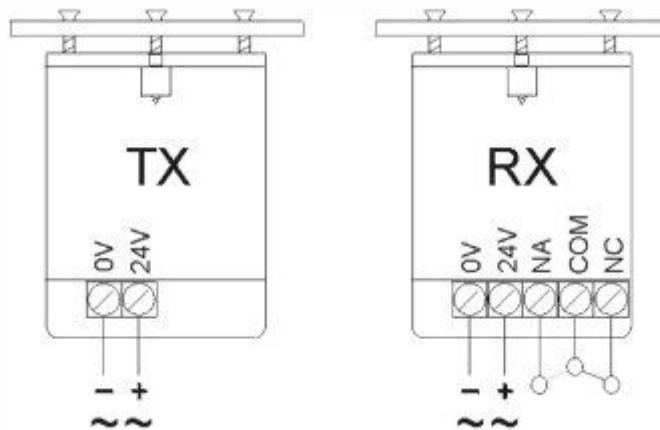

Fig. 2
**Terminal board connections: (fig. 2)**
- Connect the cables to the terminal board following the scheme (fig. 2).